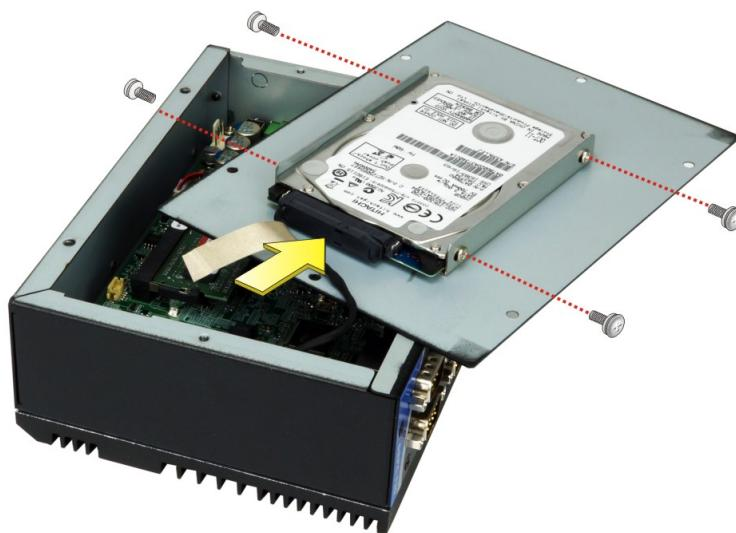

Figure 3-4: HDD Installation
Step 2: Install the HDD into the bracket on the internal access panel, and secure the HDD with four retention screws (**Figure 3-4**).
Step 3: Connect the SATA cable from the motherboard to the rear of the HDD (**Figure 3-4**).